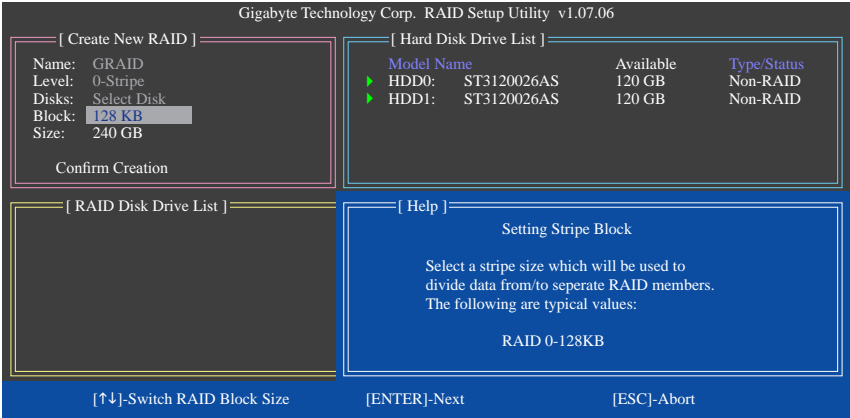

Figure 6
- Set Block Size (RAID 0 only):** Under the **Block** item, use the up or down arrow key to select the stripe block size (Figure 6), ranging from 4 KB to 128 KB. Press <Enter>.